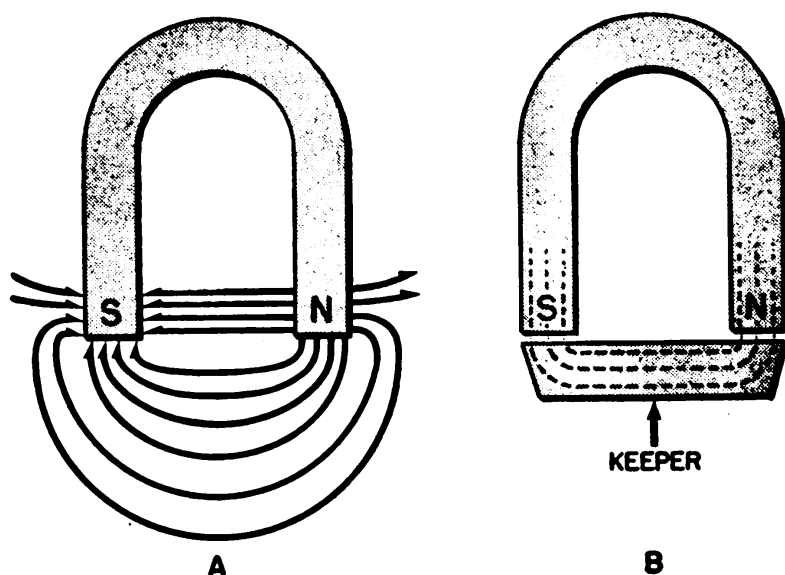

Figure 77.—Keeper—reducing reluctance.
**NOTICE**—All high-reluctance materials reduce the strength of the flux field. If you want to waste flux, use a high-reluctance material. For example, compare the two magnets in figure 77. In *A*, the flux travels through the high-reluctance air, and the magnet will soon become weak because of the